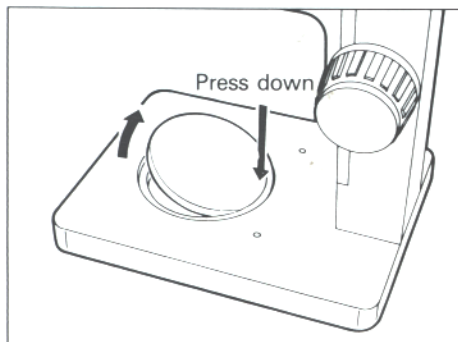

Fig. 1
- (1) Usually, the stage plates are used with the frosted white side facing the objective. However, if the specimen is white or brightly colored, use the black side of the plate as the darkened background increases image contrast.
- (2) To remove the stage plates, press down the supporting end of the plate with a fingertip, and the other end will flip up. (Fig. 1)